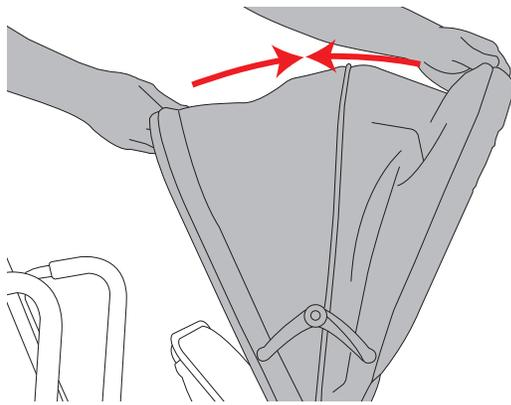

Figure 8
- To close the canopy, unlock the side hinges and pull the front edge toward the rear of the stroller until folded. See Figure 8.